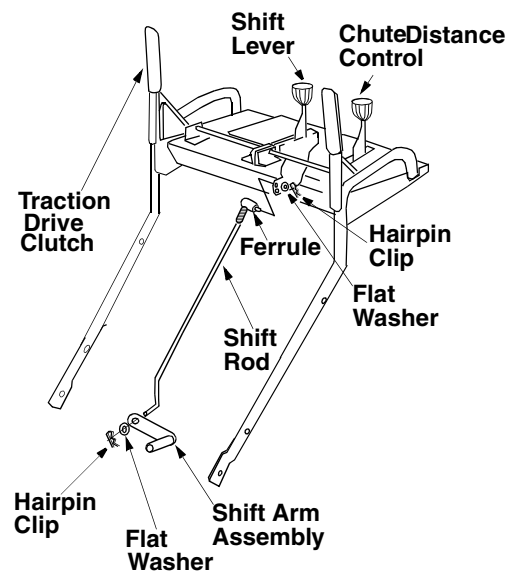

Figure 11
- Place the shift lever in the sixth (6) speed.
- Place the bent end of the shift rod into the hole in the shift arm assembly. See Figure 11. Secure with 5/16 flat washer and hairpin clip from group D of the hardware pack.
- Once the ferrule slides into the hole, turn it counter-clockwise one more full turn and insert it in the hole in the shift lever. For proper positioning of the ferrule and the associated hardware, see Figure 11.
- Secure the ferrule to the shift lever with another 5/16 flat washer and hairpin clip from group D of the hardware pack. See Figure 11.